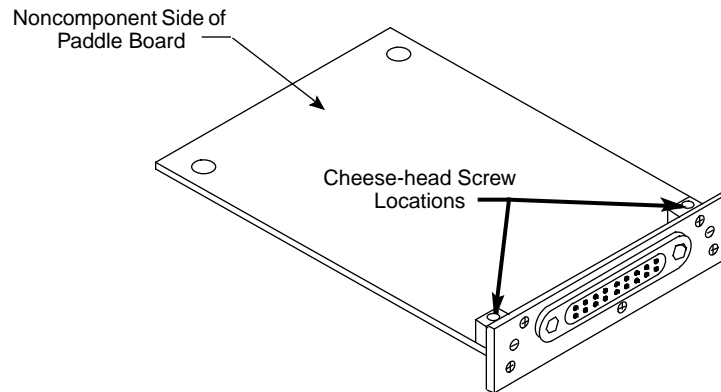

Figure 3. Paddle Board Cheese-head Screw Locations
1. Unpack the HI-I (RA) (P/N 90288000) or HI-O (TA) (P/N 90287500) paddle board and inspect it for damage. Save the packing material for reuse. Install the HI-O first; then flip the module and install the HI-I.
- a. Remove the two cheese-head screws from the rear (noncomponent) side of the paddle board. Refer to Figure 3.